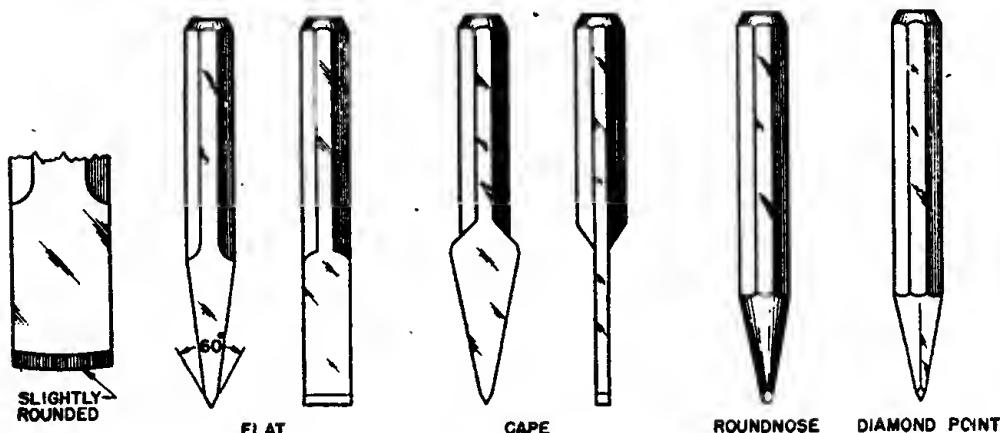

Figure 110. Cold chisels.
b. COLD CHISELS. (1) The cold chisel derives its name from the fact that it can be used to cut metal without first heating the metal to soften it. The chisel is usually made of carbon steel. After being shaped correctly, the end of the blade is hardened by heating and quenching. The blades are made in a variety of shapes, each best suited for a specific type of work.
(2) The four most common types of cold chisels are the flat, cape, roundnose, and diamond-point. (See fig. 110.)